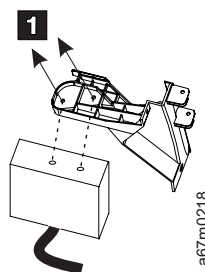

Figure 103. Removing the Bar Code Scanner
- ___ 7. Remove the existing bar code scanner by loosening the two screws (**1** in Figure 103) on the top of the I/O door bracket and detaching the scanner from the bracket. **Save these screws for reinstalling the bar code scanner.**